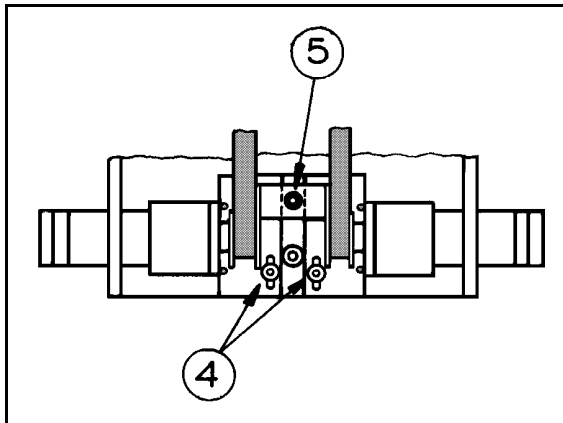

Figure 8-9: Tightening Belts in Robot Base
- Figure 8-9 shows how to tighten the two belts in the robot base which move the wrist axes. First, loosen the screw (5), and then loosen either one or both screws (4). Then, to tighten the belts, simultaneously pull the appropriate motor and retighten screw(s) (4). Finally, retighten screw 5.